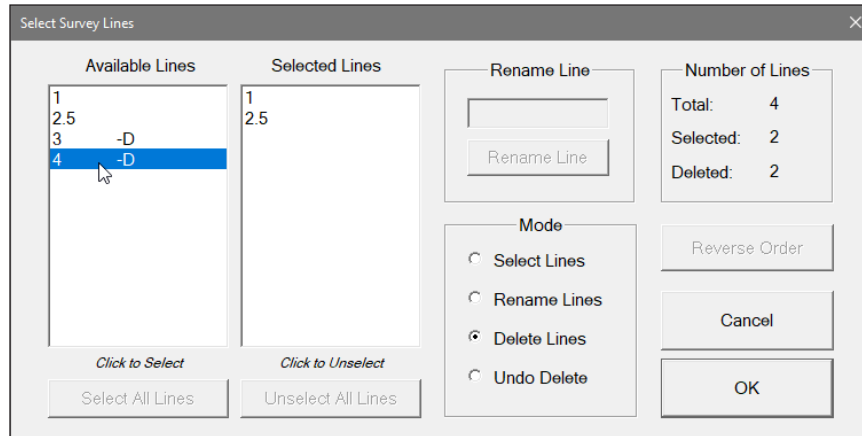

Figure 3.16 Select Survey Lines dialog during Delete Line procedure
- In the Select Lines window, switch to Delete mode (Figure 3.16).